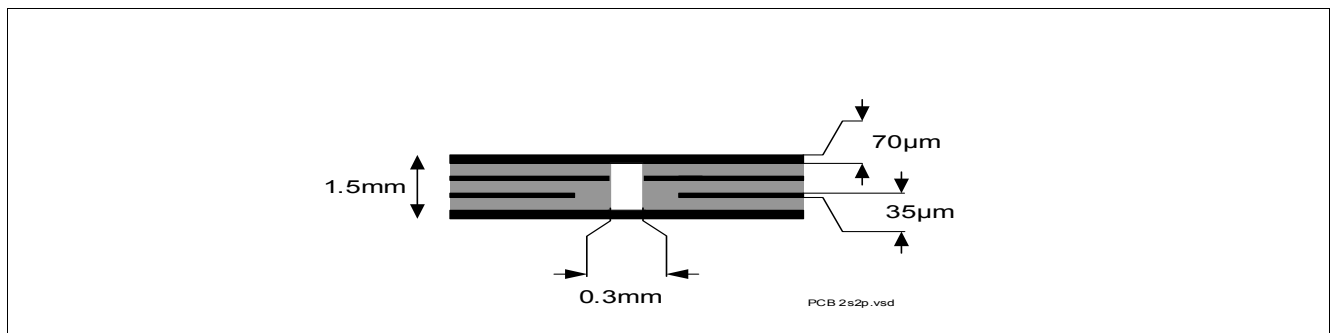

Figure 4 2s2p PCB Cross Section
- 2) Specified  $R_{thja}$  value is according to JEDEC JESD51-2,-5,-7 at natural convection on FR4 2s2p board; The product (chip + package) was simulated on a 76.4 x 114.3 x 1.5 mm board with 2 inner copper layers (2 x 70µm Cu, 2 x 35 µm Cu). Where applicable, a thermal via array under the exposed pad contacts the first inner copper layer. Please refer to Figure 4.